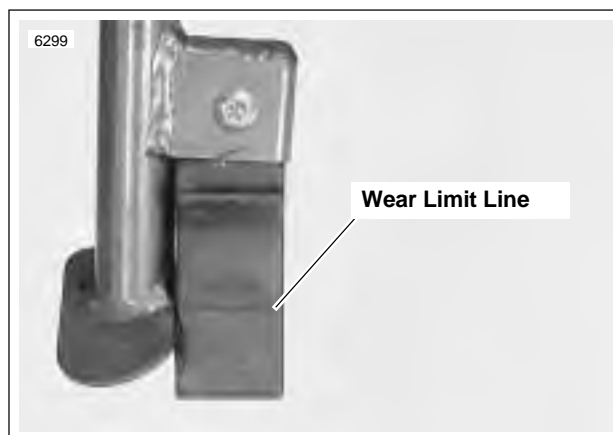

Figure 2-117. Side Stand Dragger Wear Limit
1. Replace dragger when worn to wear line shown in Figure 2-117.